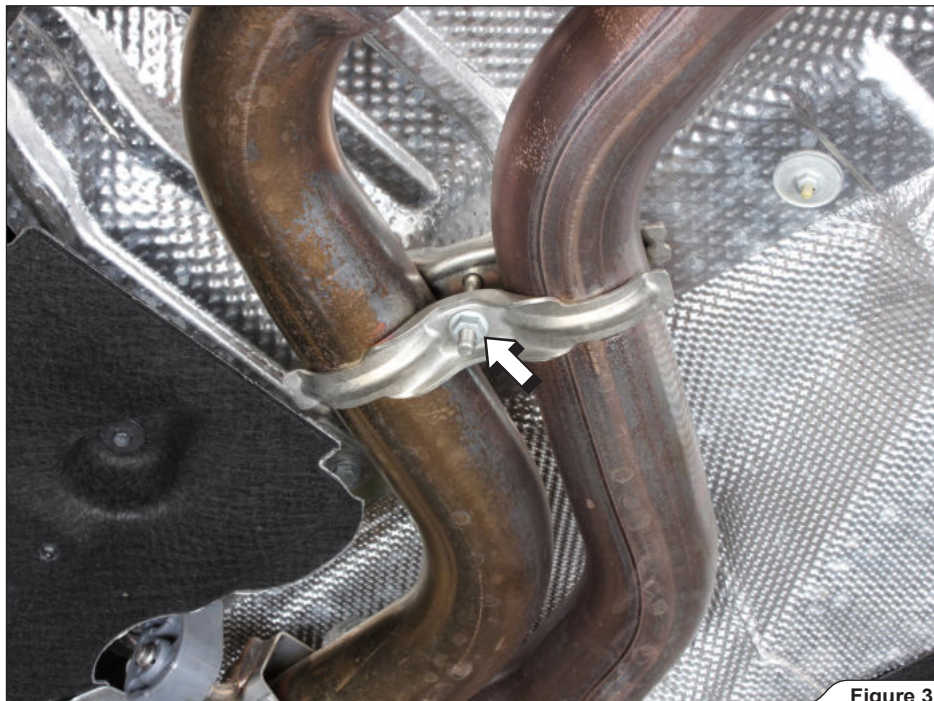

Figure 3
3. Unscrew and remove the pipe connection clamp (Figure 3).